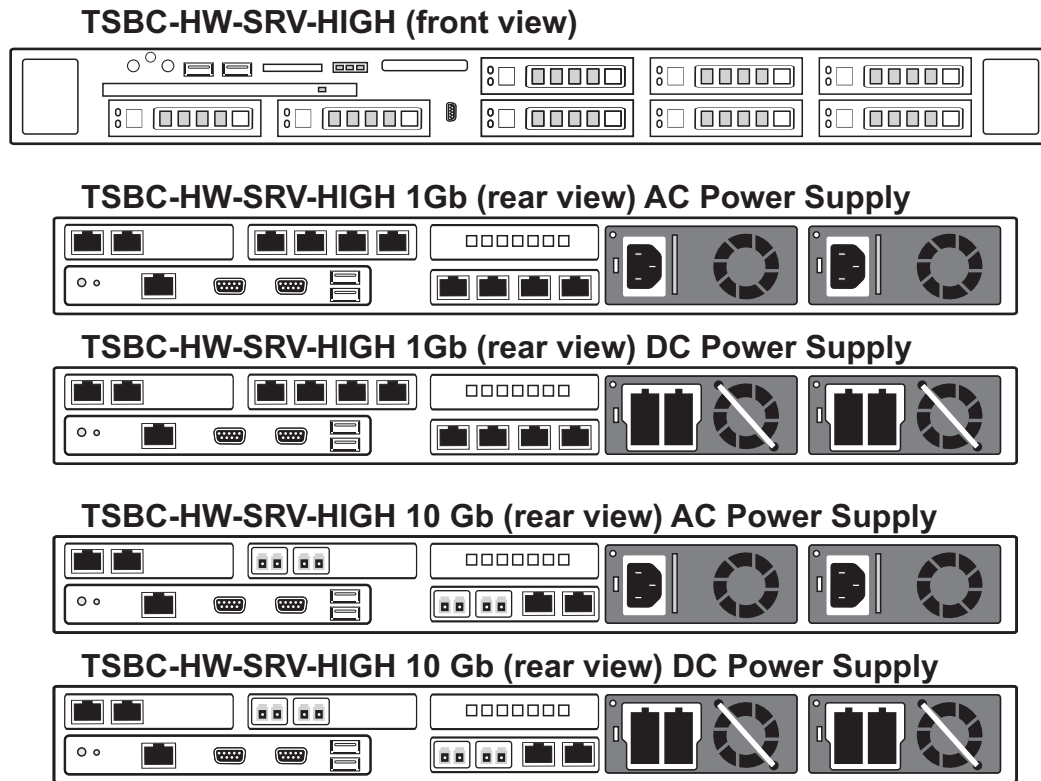

Figure 1.1 TSBC-HW-SRV-HIGH
- TSBC-HW-SRV-HIGH, (figure 1.1 on page 3)